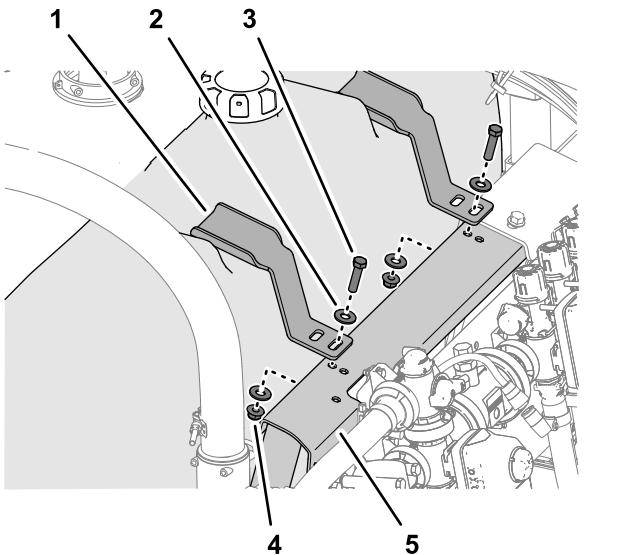

Figure 16
- Align the hold-down bracket with the reliefs molded into the top of the rinse tank (Figure 16)
2. Align the slot in the hold-down bracket with the hole in the valve mount (Figure 16).
3. Loosely assemble the hold down to the valve mount (Figure 16) with a bolt (3/8 x 1-1/2 inches), 2 washers (3/8 inch), and a flange locknut (3/8 inch) that you removed in Removing the Rinse Tank \(page 6\).
4. Repeat steps 1 through 3 for the other hold down at the other recess in the rinse tank (Figure 16).